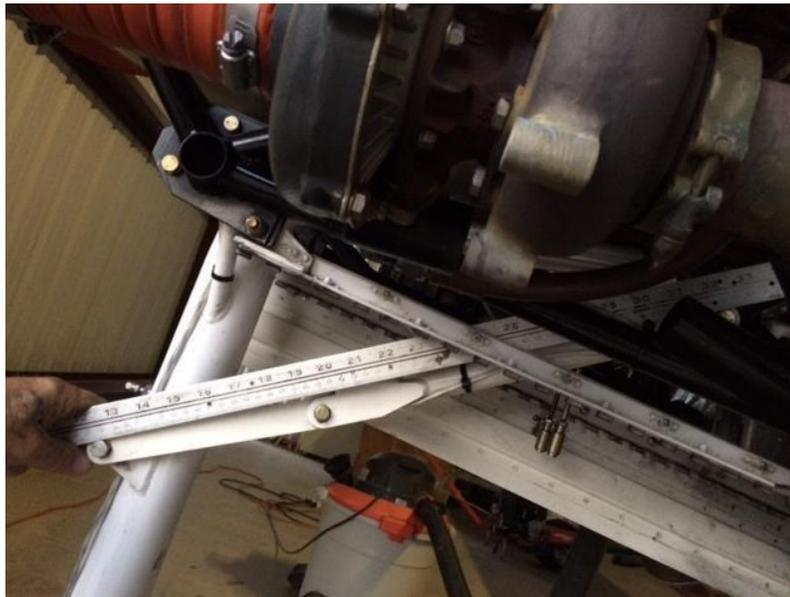

Figure 3
- 6.2.1.1** Using a straightedge, check that the drag links are over-center shown in Figure 3. There is no “over-center distance” specified, but a range from $\frac{1}{4}$ ” to $\frac{1}{2}$ ” as measured from the centerline of the pivot bolt joining the upper and lower links is ideal.